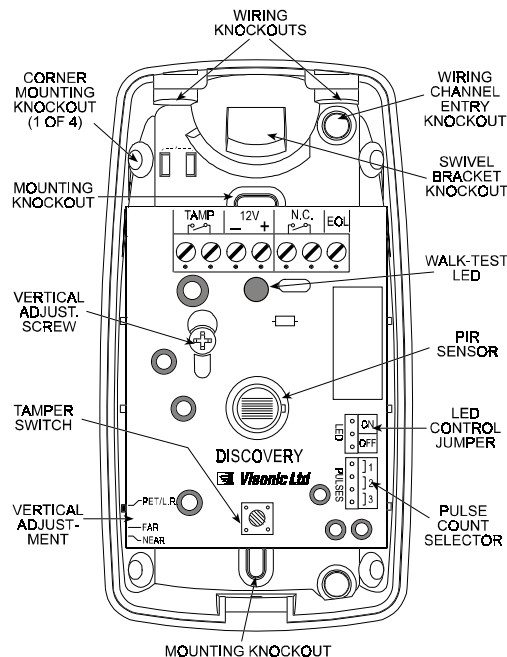
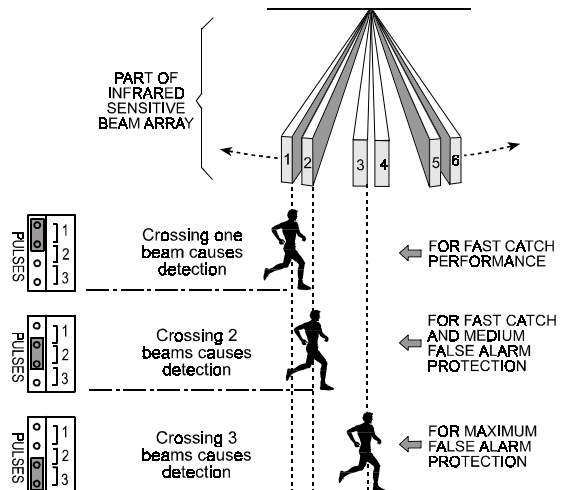

Figure 5. Inside View
Figure 14. Pulse Counter Setting Options
D. Refer to Figure 5 and punch out the mounting knockouts at the rear wall of the base (for surface mounting) or mounting knockouts at the angled sides of the base (for corner mounting).
E. Punch out any one of the wiring knockouts shown in Figure 5.
The location of the pulse count selector is indicated in Figure 5. Refer to Figure 14 below and mount the jumper as desired.